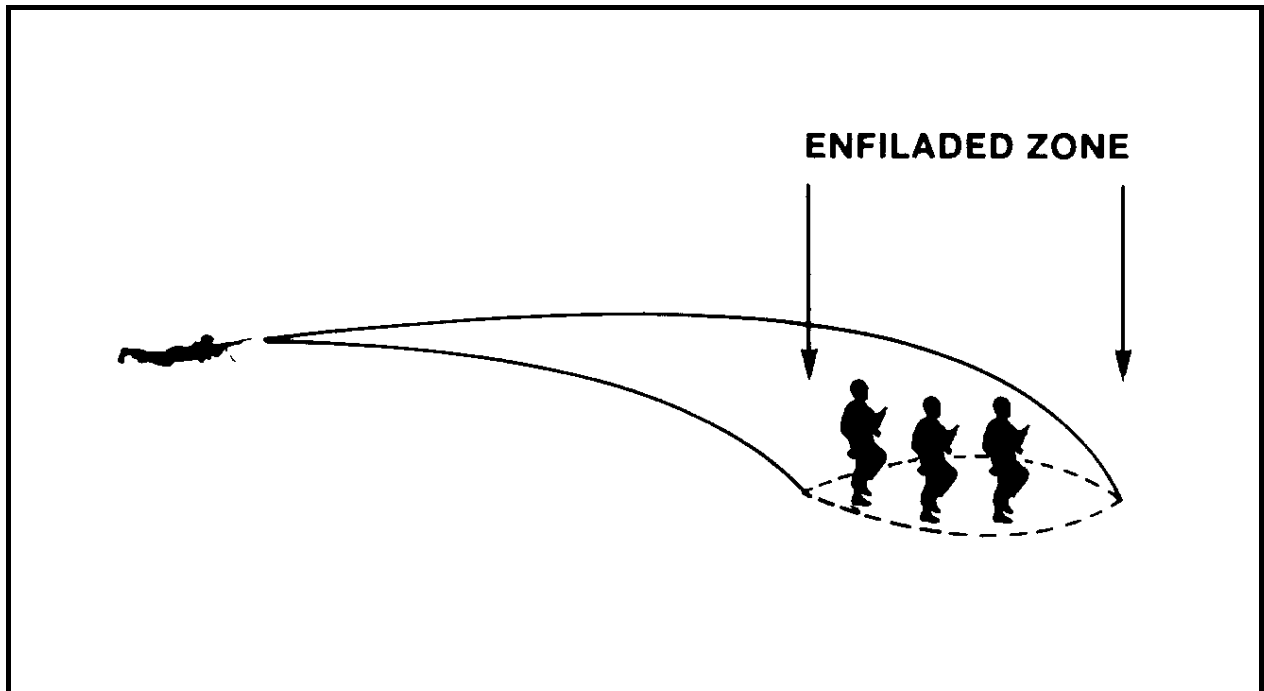

Figure 2-9 Enfiladed Zone
- f. **Enfiladed Zone.** The enfiladed zone is an area of ground in which a group of targets in line are included in the longitudinal axis of the beaten zone (see Figure 2-9).